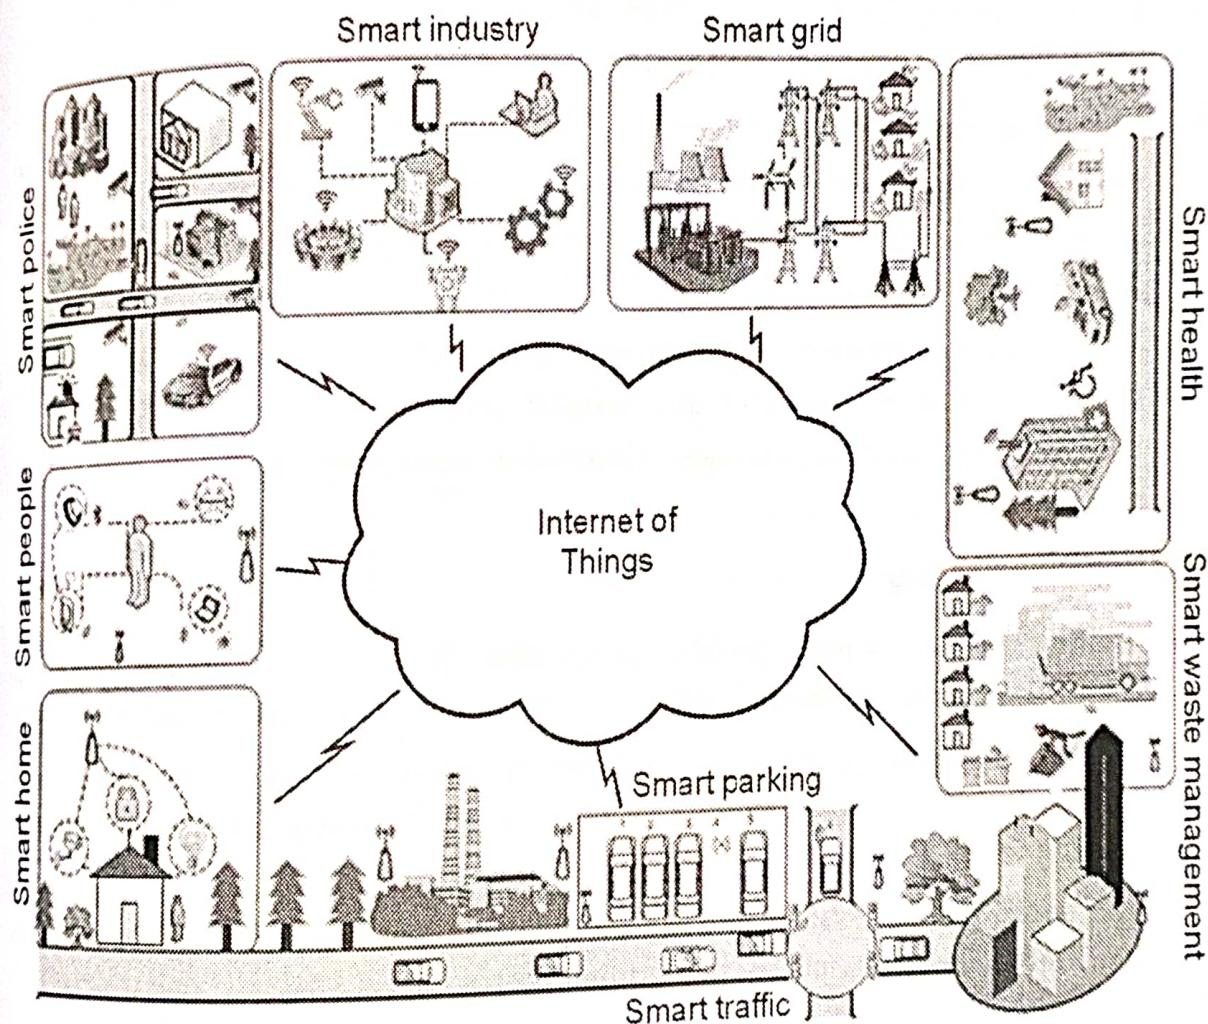

Fig. 4.6.1 Smart city
- Fig. 4.6.1 shows concept of smart city.